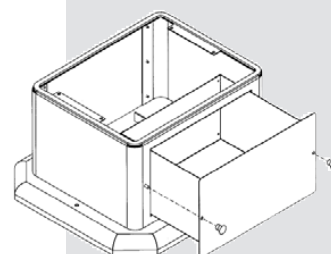

FIGURE 24
- Periodically remove and empty ash bin (see Figure 24) by unscrewing the two knobs on the front of the pedestal below the ash lip. Dispose of ashes properly. (See “ASH REMOVAL” above)